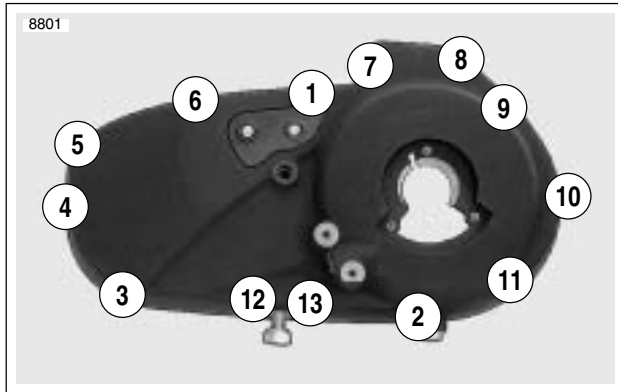

Figure 6-5. Primary Cover Tightening Sequence
4. See Figure 6-5. Tighten fasteners to 80-110 **in-lbs** (9-12.4 Nm) in sequence shown.